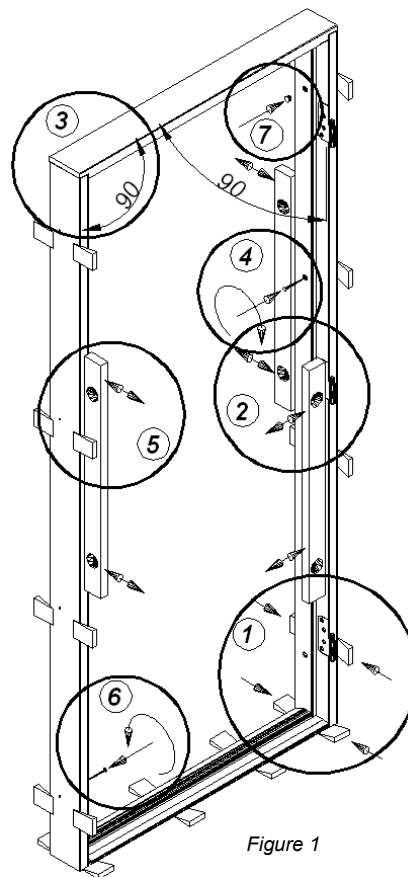
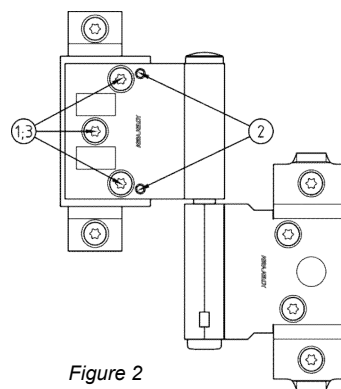

Figure 1
Figure 2
4. (See Figure 1) Lift the frame into the aperture and fix it with wedges. Place the wedges near the fastening screws (pos. 1).
5. Use a spirit level to ensure that the frame is level (pos. 2) and the corners are right-angled (pos. 3). Make adjustments with the wedges if necessary.
6. Screw the vertical frame side with the hinges tightly into the wall (pos. 4).
7. Install the door leaf and use it to make sure that the opposite frame side is straight (pos. 5). Ensure that the passage gap between the door leaf and the frame is equal along the door perimeter. Adjust if necessary:
Side adjustment: See Figure 2 (1) Loosen the three marked screws. NOTE not more than three turns. (Torx25). (2) To adjust the door leaf/sash towards the lock side, screw the two socket head screws clockwise (socket head 3mm). To adjust the door leaf/sash towards the hinge side, screw the two socket head screws counter clockwise. (3) Tighten the three marked screws again. Test the function. If necessary, repeat step 1-3 again.